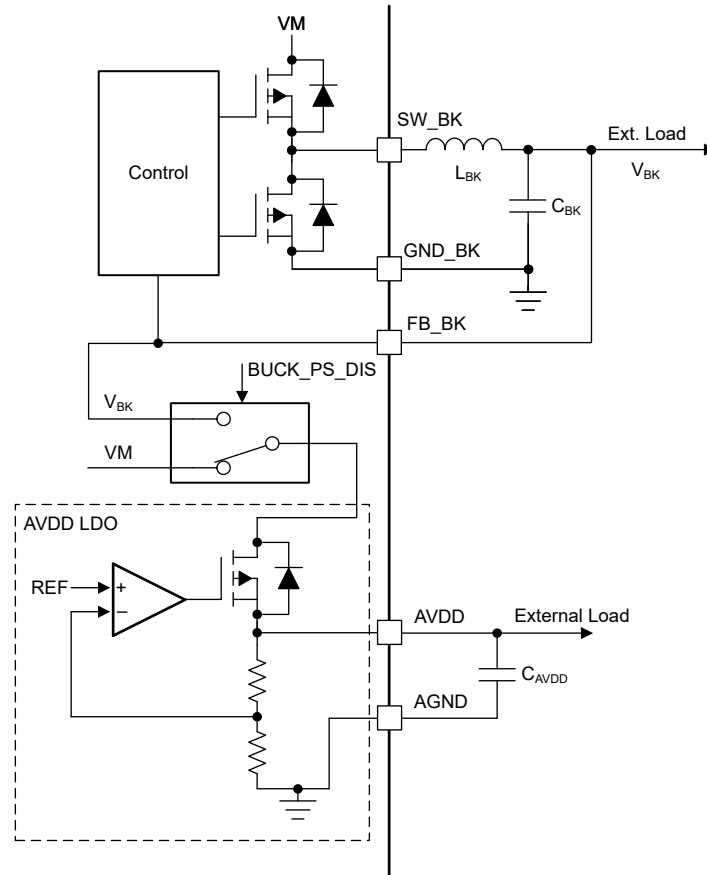

Figure 7-5. AVDD Power Sequencing from Mixed Mode Buck Regulator
The AVDD LDO has an option of using the power supply from mixed mode buck regulator to reduce the device power dissipation. The power sequencing mode allows on-the-fly changeover of AVDD LDO input from DC mains (VM) to buck output (V_{BK}) as shown in Figure 7-5. This sequencing can be configured through the BUCK_PS_DIS bit . Power sequencing is supported only when buck output voltage is set to 5-V or 5.7-V.